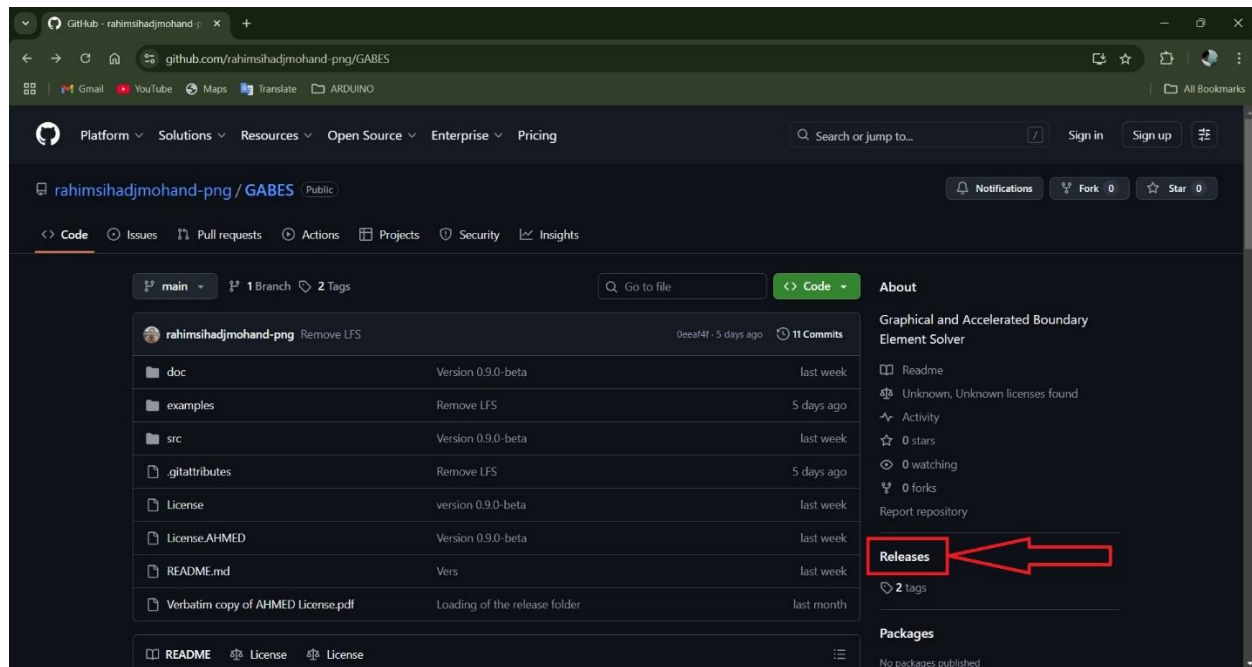

Figure 1: Accessing the releases
1. Navigate to the **Releases** section on the GABES main repository page (see Figure 1).